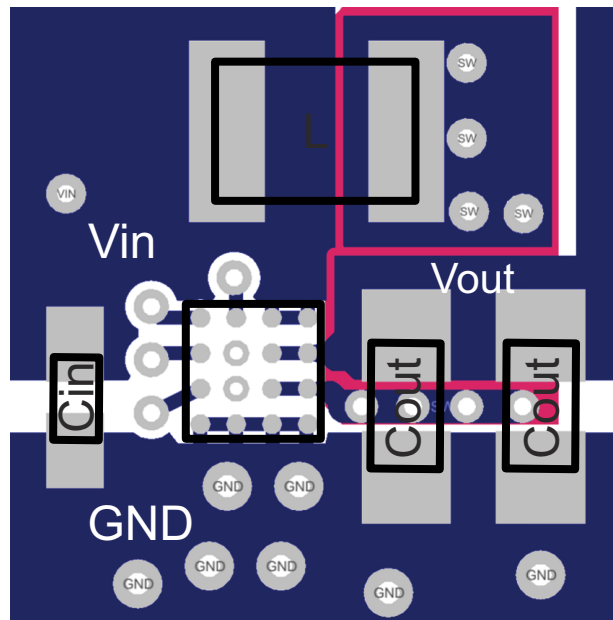

图 12-1. Suggested Layout (Top)
- Place the output capacitor(s) as close as possible to GND and V_{OUT} , as shown in 图 12-1.